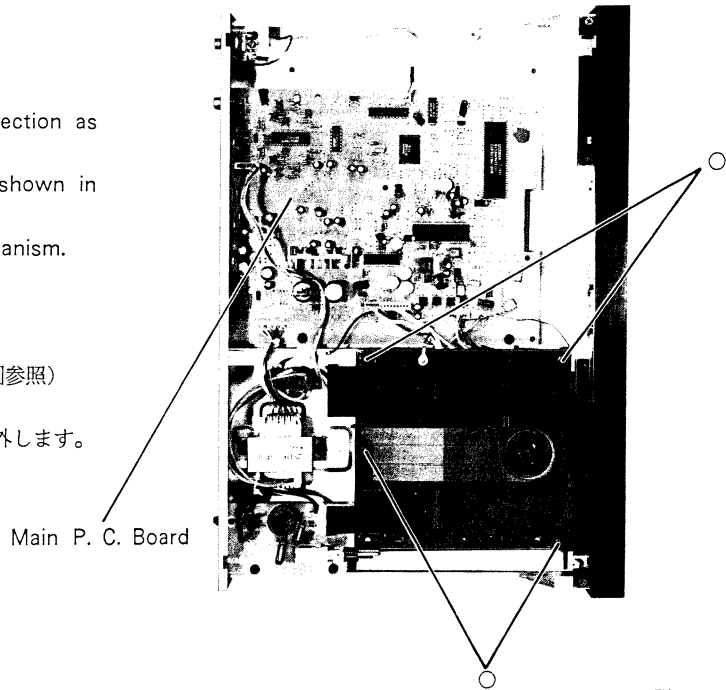

Figure 1
- (3) Remove four screws marked "O" as shown in Figure 1.
- (4) Disconnect all wires from the CD Mechanism.